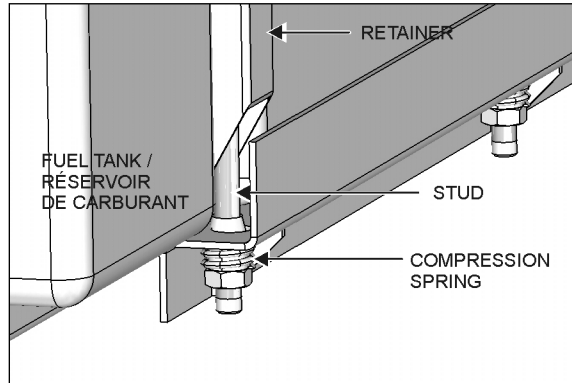

FIGURE 29: FUEL TANK RETENTION 03019_2
5. On the transversal screw joints (Figure 29) any visible gap between cradle support tubing and vehicle frame mounting lugs is not acceptable.